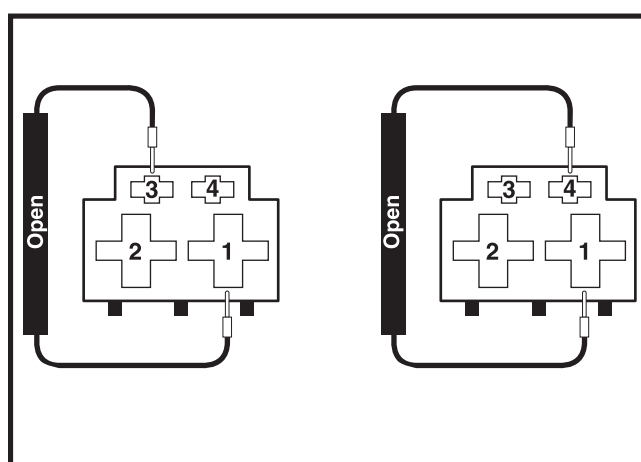

Figure 37. Connector 13b
1. Unplug connector 13b from the power module (4). See **diagram 2**.
2. Measure resistance across pin 1 and pin 3 and across pin 1 and pin 4 on connector 13b. See **figure 37**.
- If your multimeter indicates an open on both tests, then replace the power module (4) and retest the system.